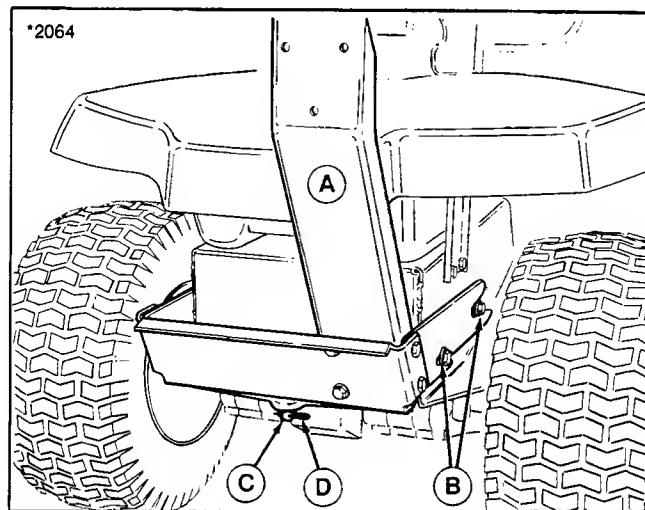

Figure 4.
7. Install bracket assembly (A, figure 4) onto frame spacers (B) as shown in figure 4. Install clevis pin (C) through back plate and drawbar and secure with spring clip (D). Tighten all bracket hardware after checking fitment on spacers.